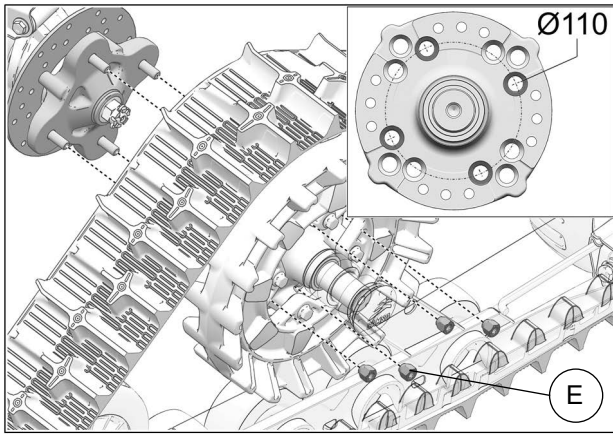

Fig. 24
13. Secure undercarriage to front hub using the provided M12 lug nuts (**E**). Use bolt circle $\varnothing 110\text{mm}$. See Fig. 24